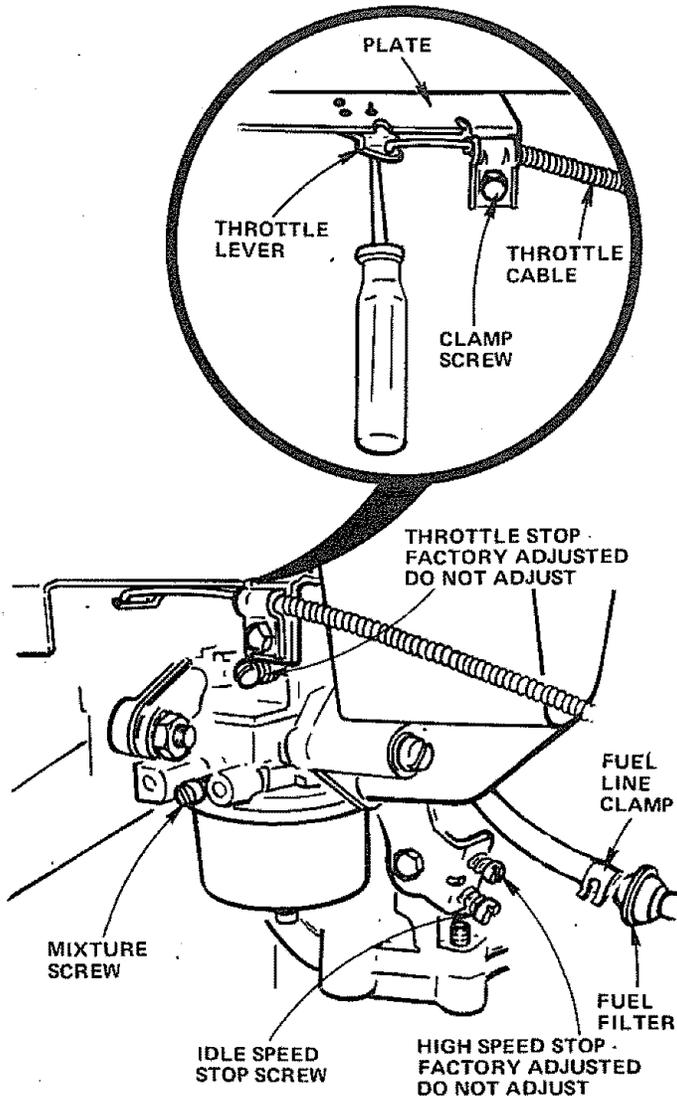

FIGURE 25
- Check that hole in throttle lever and hole in plate line up (Fig. 25 - Inset). If holes are not aligned, loosen clamp screw and move throttle cable until holes are aligned. Tighten clamp screw.